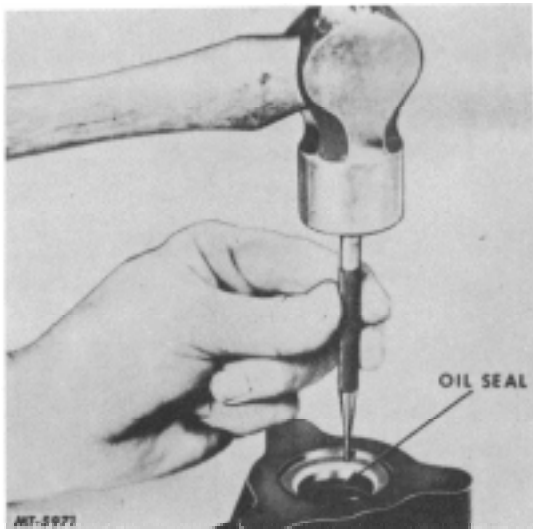

Fig. 19
16. Remove oil seal from bearing cap using a hammer and drift punch, Fig. 19.